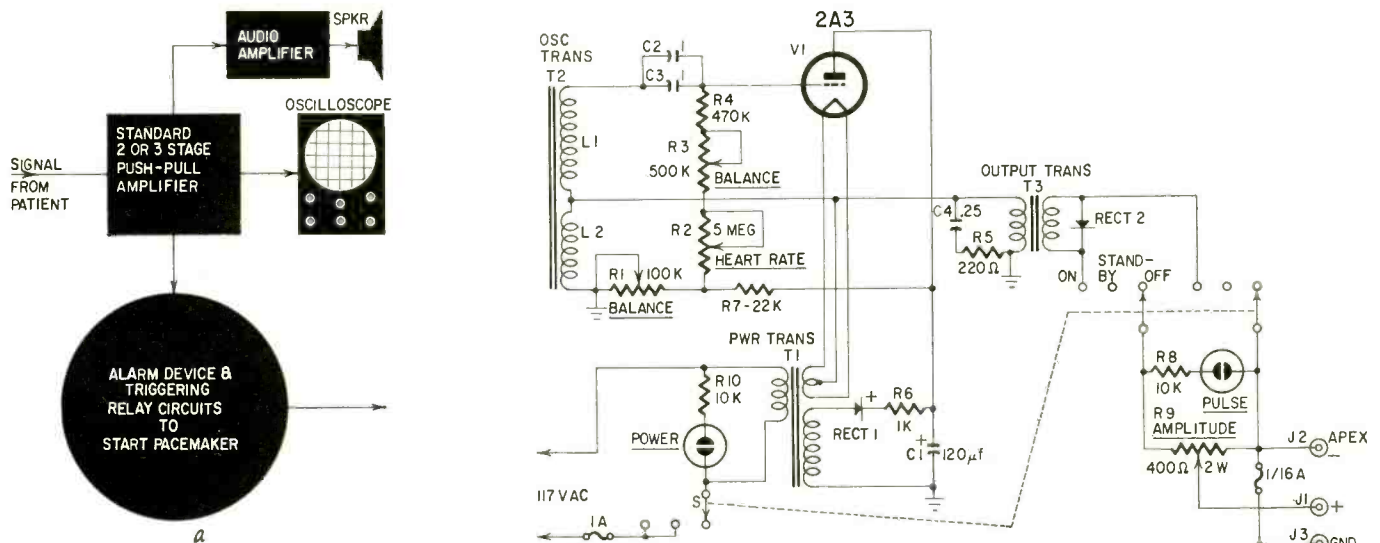

Fig. 2 — Typical Pacemaker unit: a—block diagram of monitor system to start the Pacemaker automatically when it is needed; b—schematic diagram.
Fig. 2 is a typical example of Pacemaker circuitry. Power to the instrument is controlled by an ON-OFF-STANDBY switch (S) located on the front panel. In STANDBY, all circuits are activated with the exception of the pulse output jacks to the patient's electrodes. These are energized in the ON position. With the switch in ON or STANDBY, the POWER INDICATOR glows. The PULSE INDICATOR is excited only in the ON position and only when a pulse occurs. This makes the lamp flicker once for each pulse. A typical power supply consists of a transformer and